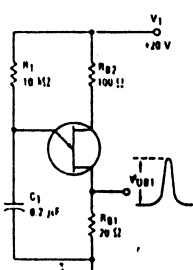

FIGURE 4 —  $\rho$  TEST CIRCUIT
* Valley-Point Current (2) ( $V_{D2D1} = 20\text{ V}$ , $R_{D2} = 100\text{ ohms}$ )	13, 14	$I_V$	2.0 4.0 6.0	—	—	mA
- (1) Intrinsic standoff ratio, is defined in terms of the peak-point voltage,  $V_P$ , by means of the equation:  $\rho = V_{D2D1} / V_P$ , where  $V_P$  is about 0.49 volt at  $25^\circ\text{C}$  @  $I_E = 10\text{ }\mu\text{A}$  and decreases with temperature at about  $2.5\text{ mV}/^\circ\text{C}$ . The test circuit is shown in Figure 4. Components  $R_1$ ,  $C_1$ , and the UJT form a relaxation oscillator; the remaining circuitry serves as a peak-voltage detector. The forward drop of Diode  $D_1$  compensates for  $V_P$ . To use, the "cal" button is pushed, and  $R_1$  is adjusted to make the current meter,  $M_1$ , read full scale. When the "cal" button is released, the value of  $\rho$  is read directly from the meter, if full scale on the meter reads 1.0.
- (2) Use pulse techniques:  $PW = 300\text{ }\mu\text{s}$ , duty cycle  $\leq 2.0\%$  to avoid internal heating, which may result in erroneous readings.